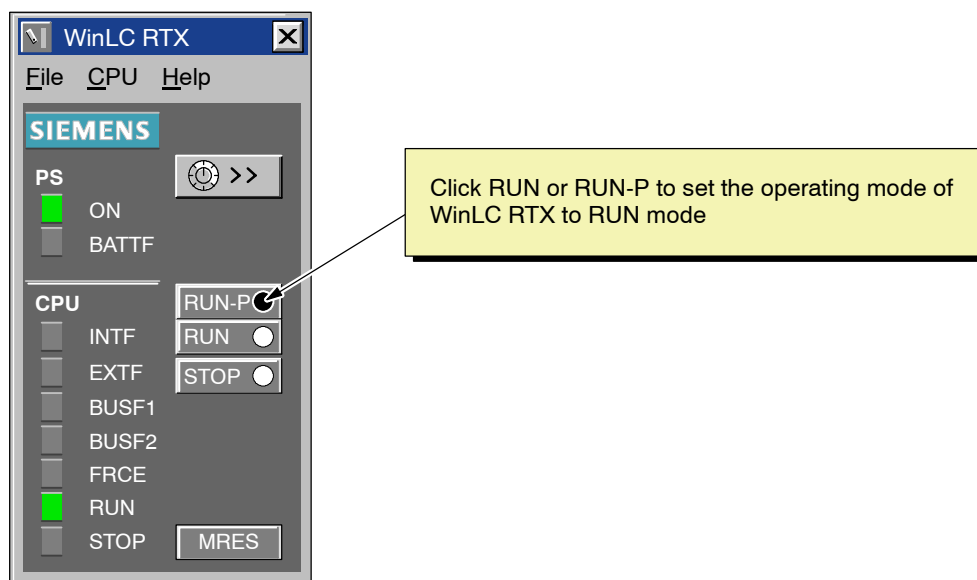

Figure 3-24 Setting WinLC RTX in RUN mode
2. As shown in Figure 3-24, click RUN or RUN-P to set WinLC RTX to RUN mode. (You can also use the **CPU > RUN** or **CPU > RUN-P** menu command to change the operating mode of WinLC RTX.)